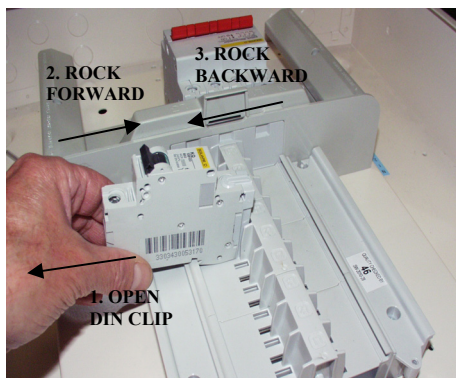

Fig 12
- Lift at the bottom of the device and gently rock towards the centre of the board until resistance is met. (Fig 12).
- Rock the device in the opposite direction and lift off. (Fig 12).